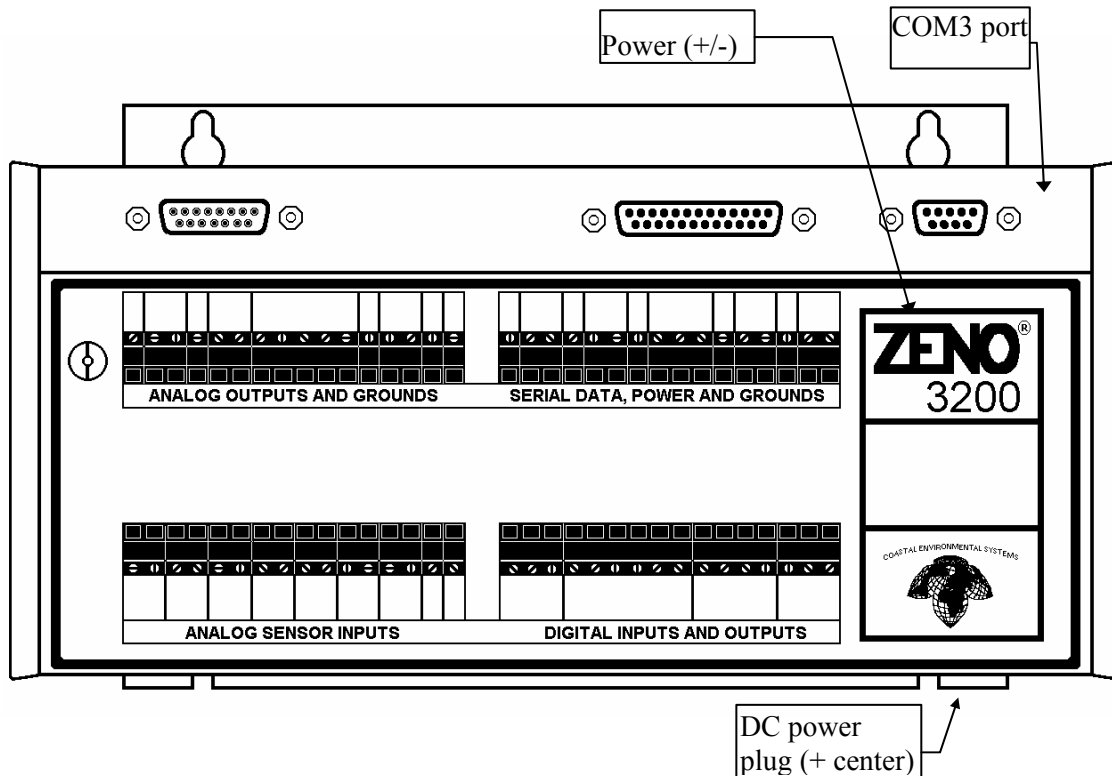

Figure 2-3. ZENO®-3200 Power Connections & Connecting to COM3.
4. The ZENO®-3200 requires a power source of 10 to 16 VDC. You can either apply power to the ZENO®-3200 using the 12 VDC power adapter provided by Coastal Environmental Systems, or you can connect to your own 10 to 16 VDC power supply. If you are using your own power supply, connect power to the points labeled "POWER" on the terminal strip labeled "SERIAL DATA, POWER AND GROUNDS" on top of the ZENO®-3200. See Figure 2-3.